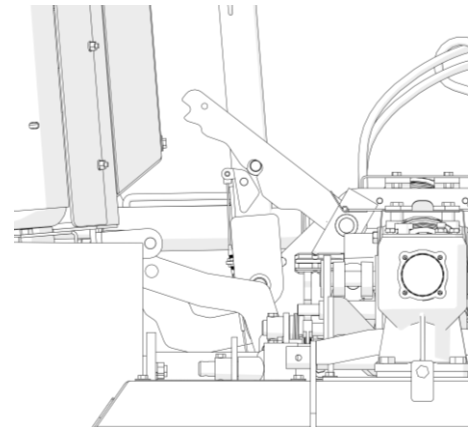

Figure 8
- 3) Inspect deck safety locks to ensure they are properly engaged (if in the raised position). (Figure 8)
1. Ensure the deck transport locks are engaged (Figure 8 page 24).
4. Release the hydraulic lever and make sure the locks are engaged(Figure 8 page 24).